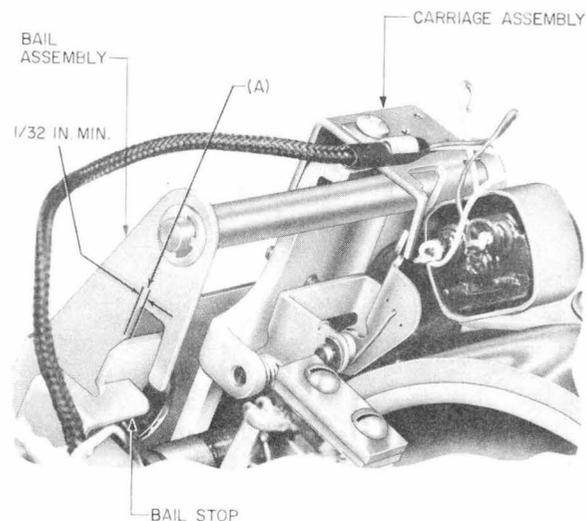

Fig. 9—Bail Clearance (Shown in Unoperated Position)
3.08 Bail Stop Position: With the L1 solenoid electrically operated, the clearance between the side of the slot in the bail assembly and the side of the bail stop [Fig. 9(A)] farthest from the drum shall be a minimum of 1/32 inch throughout the entire carriage travel. Check using the 92K gauge. This requirement should be checked each time the recorder is lubricated.